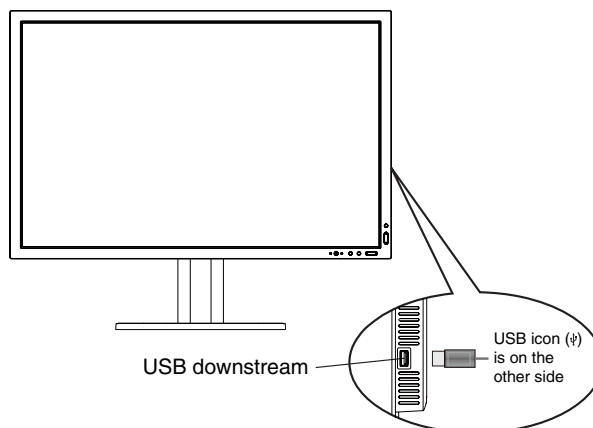

Figure 2
3. Plug-in the USB color sensor to the side (or bottom when Portrait orientation) USB downstream port (**Figure 2**).